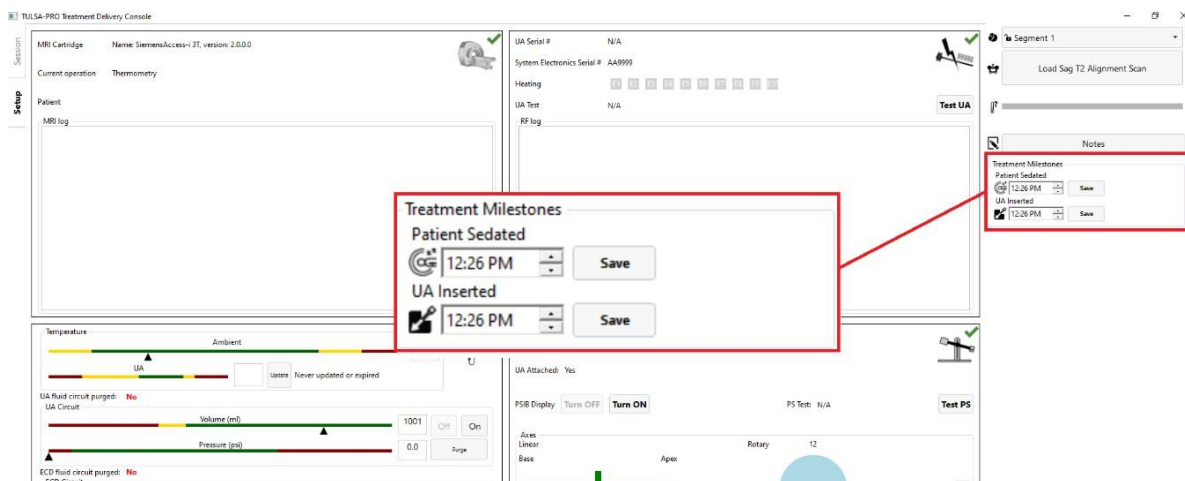

Figure 31: Entering Treatment Milestones in the TDC Setup Workspace
1. In the TDC *Setup* Workspace, enter the sedation and UA insertion times under **Treatment Milestones** (Figure 31).